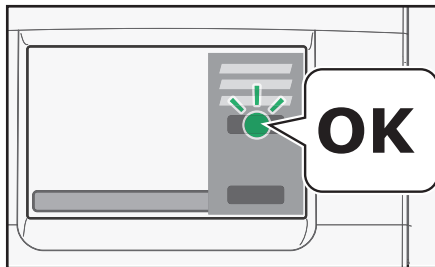

Fig. 5.6 - Tap on OK during flushing/complete cleaning
8. Tap on "OK" to confirm (fig. 5.6), that Rinza cleaning tablets are inserted and that the container is placed.
9. Tap on "OK" to start flushing with hot water. (fig. 5.6).